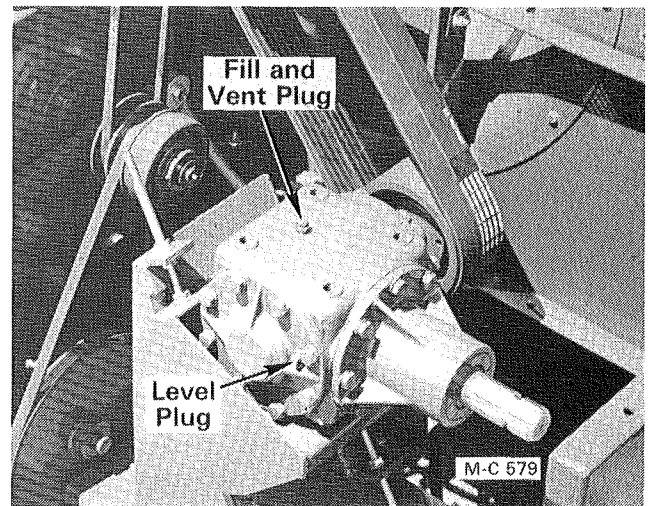

Figure 36 - PTO Front and Irrigation Drive
1. **All Model 675B and 975B** - Check the oil level in the gear boxes. Figure 36 shows PTO front and irrigation drive gear box. Oil level should be even with the bottom of the hole. If not, remove the vent plug on the top and add Mobilfluid 423 multipurpose transmission lubricant or equivalent. Install level and vent plug. Be sure vent plug is open.